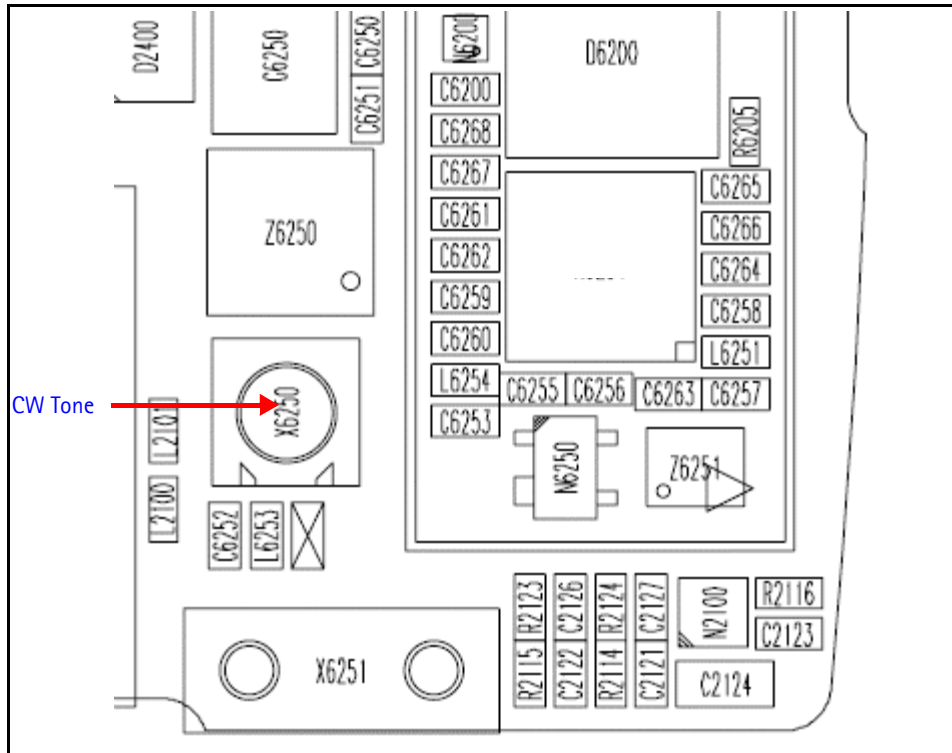

Figure 58: GPS connector (X6250)
3. Inject a -50dBm tone at 1575.52MHz at the GPS connector (X6250) with a signal generator or a call box. (See Figure 58.)